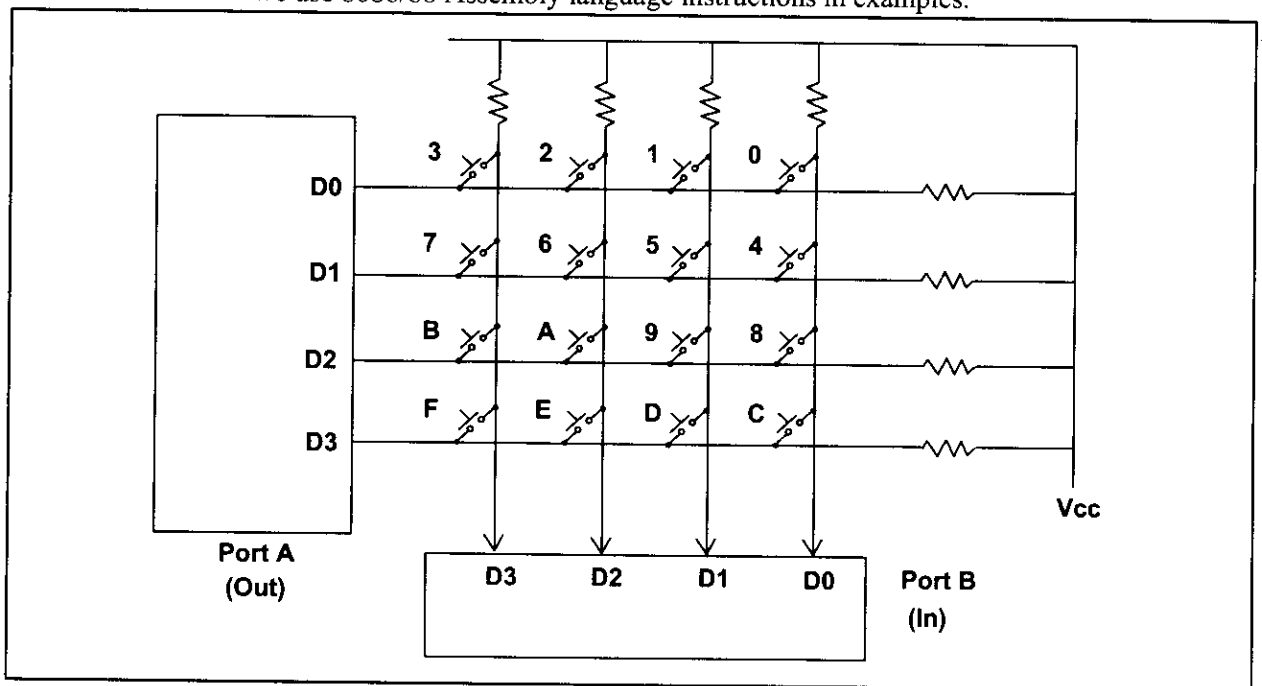

Figure 18-1. Matrix Keyboard Connection to Ports
Figure 18-1 shows a 4 x 4 matrix connected to two ports. The rows are connected to an output port and the columns are connected to an input port. If no key has been pressed, reading the input port will yield 1s for all columns since they are all connected to high (VCC). If all the rows are grounded and a key is pressed, one of the columns will have 0 since the key pressed provides the path to ground. It is the function of the microprocessor to scan the keyboard continuously to detect and identify the key pressed. How it is done is explained next.
From Figure 18-1, identify the row and column of the pressed key for each of the following.
From Figure 18-1 the row and column can be used to identify the key.
4. In Figure 18-1, if the row has  $D3 - D0 = 1110$  and the columns are  $D3 - D0 = 1110$ , which key is pressed?